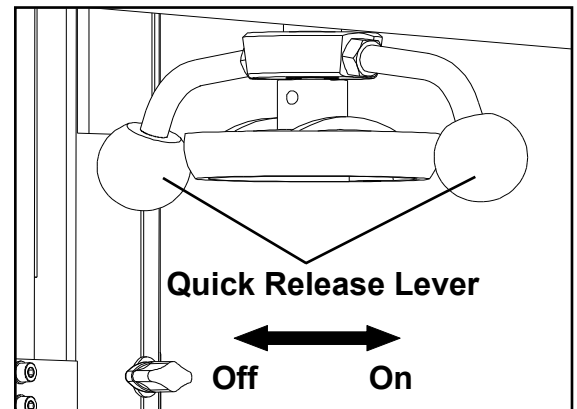
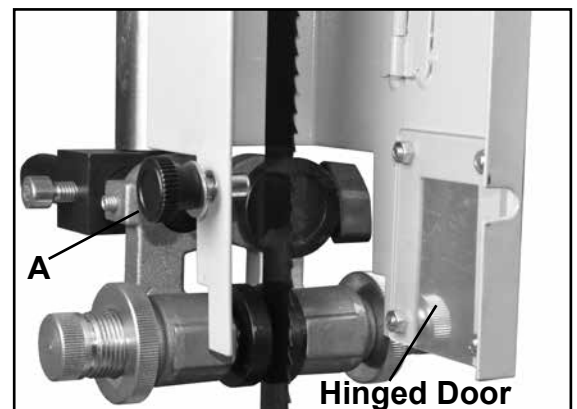

Figure 15
Figure 16
- Release the blade tension by moving the quick release lever (Fig.15) from right to left. Open the hinged door on the blade guard by loosening the wing screw (A-Fig.16).
- f) Re-tension the new blade by moving the quick release lever (Fig.15) left to right and check the blade tracking. With your hand, slowly spin the upper wheel clockwise three times. The blade should run in the center of both wheels. Refer to “Tracking the Saw Blade” on page 12 for more details.
- h) Close the hinged door on the blade guard and tighten the wing screw (A-Fig.16).